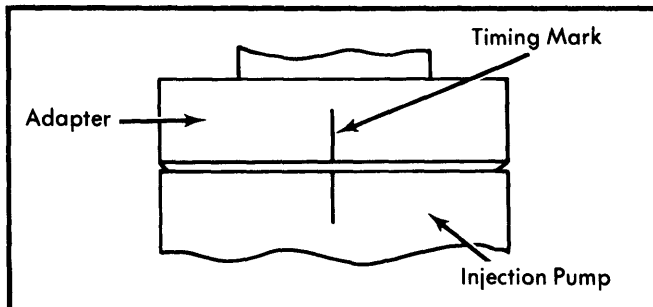

Fig. 10 Aligning Timing Marks on Pump & Adapter
6) Align mark on injection pump with line on adapter. Tighten retaining nuts to 18 ft. lbs. See Fig. 10.
Engine is properly timed when marks on top of injection pump adaptor and pump flange are aligned. See Fig. 10. If marks are not aligned, adjustment is necessary. Engine must be OFF for adjustment.
2) Align mark on pump with mark on adapter and tighten nuts. Torque to 35 ft. lbs. See Fig. 10.